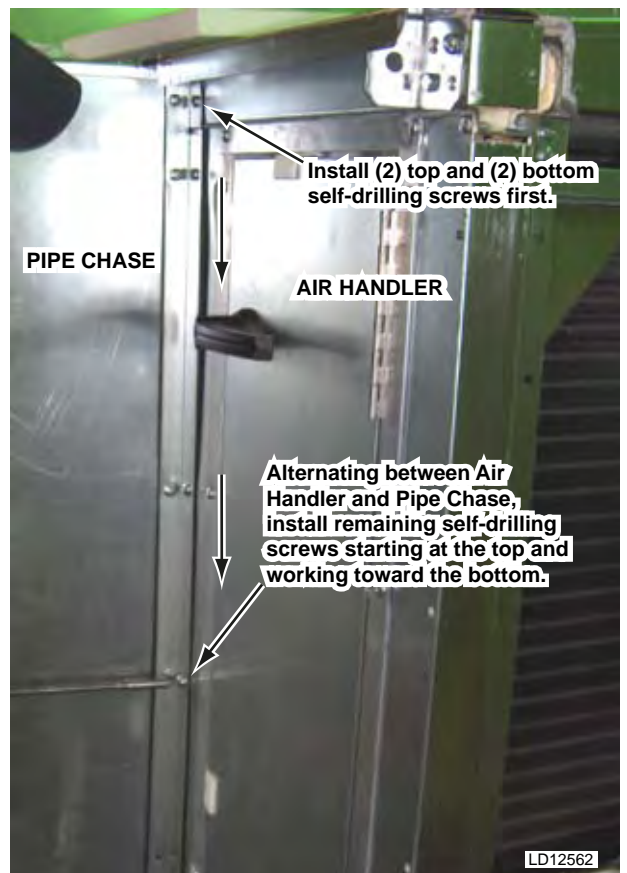

FIG. 2-50 – PROPER PATTERN FOR INSTALLING SELF-DRILLING SCREWS TO COVER ANGLE
- Starting at the top and alternating between the air handler and pipe chase, continue installing self drilling screws until reaching the bottom. Use caution not to strip the housing (see Fig.2-50).